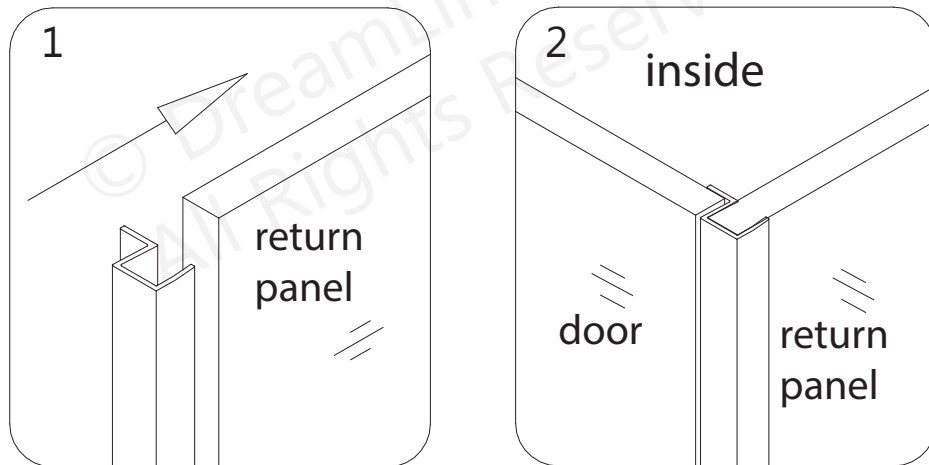

Fig 10
10. Attach the Strike Vinyl Seal (#12) to the edge of the Return Panel Glass (#03). (Fig 10)